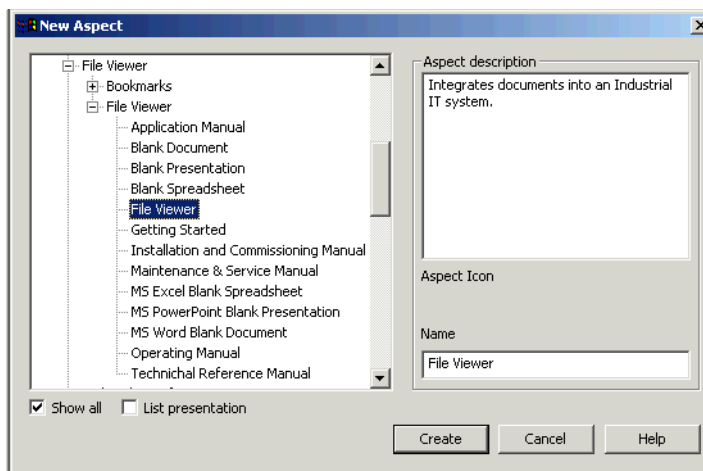

Figure 284. File Viewer Aspect
2. Select **New Aspect** from the object's context menu and add a File Viewer aspect, see Figure 284.